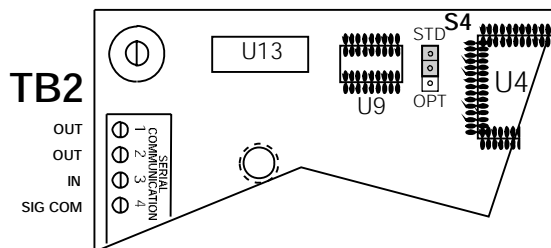

Figure 8-11. Serial Expansion Board Assembly Jumpers
5. Remove the RS232 device from U13 on the CPU board (Figure 8-11).